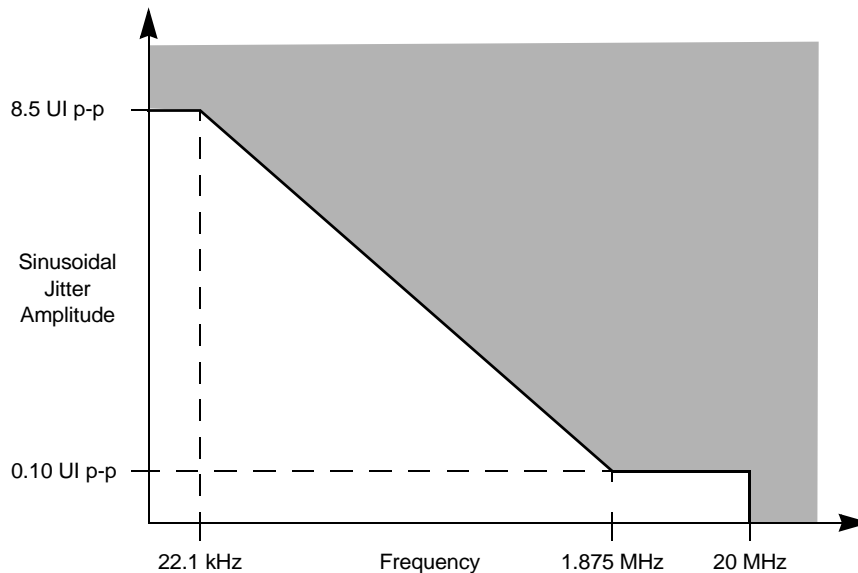

Figure 18. Single Frequency Sinusoidal Jitter Limits
2. Total jitter is composed of three components, deterministic jitter, random jitter, and single frequency sinusoidal jitter. The sinusoidal jitter may have any amplitude and frequency in the unshaded region of Figure 18. The sinusoidal jitter component is included to ensure margin for low frequency jitter, wander, noise, crosstalk, and other variable system effects.
Notes:	<ol style="list-style-type: none"> See Figure 18 for single frequency sinusoidal jitter limits Each UI is 800 ps \pm 100 ppm.
Notes:	<ol style="list-style-type: none"> Measured at receiver. Refer to RapidIO™ 1x/4x LP Serial Physical Layer Specification for interpretation of jitter specifications. Also see Figure 18. Each UI is 800 ps \pm 100 ppm.